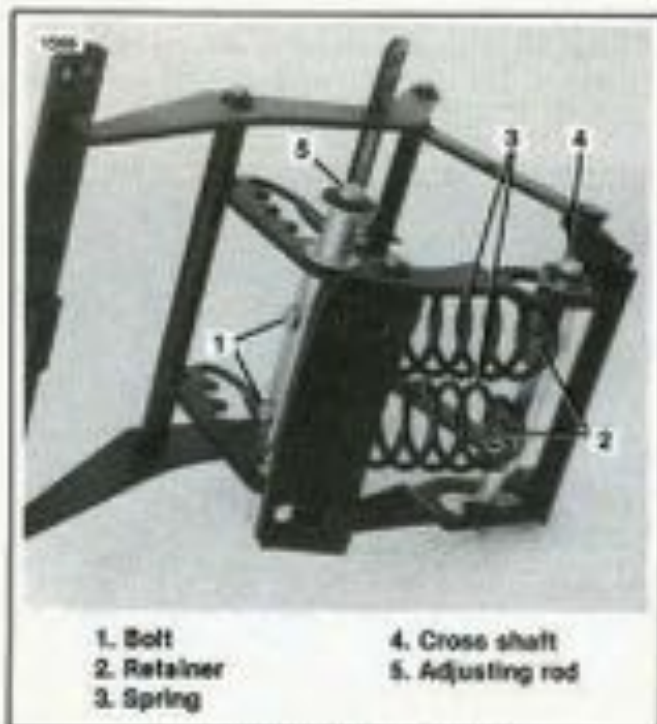

Figure 2-107. Spring Assembly
- Pry off the two speed nuts (7), outer damper arm (8) and large fiber washer (9). Remove the inner damper arm (10), small spacer (11), large spacer (12) and washers (13).
- See Figure 2-107. Remove the bolts (1) and retainers (2) from each spring end.
- Remove the cross shaft (4) and adjusting rod (5).
3. See Figure 2-107. Insert the cross shaft through the right side of front slots with the step facing towards the springs. Fasten the shaft to the springs using the other two retainers and bolts. Tighten bolts securely.